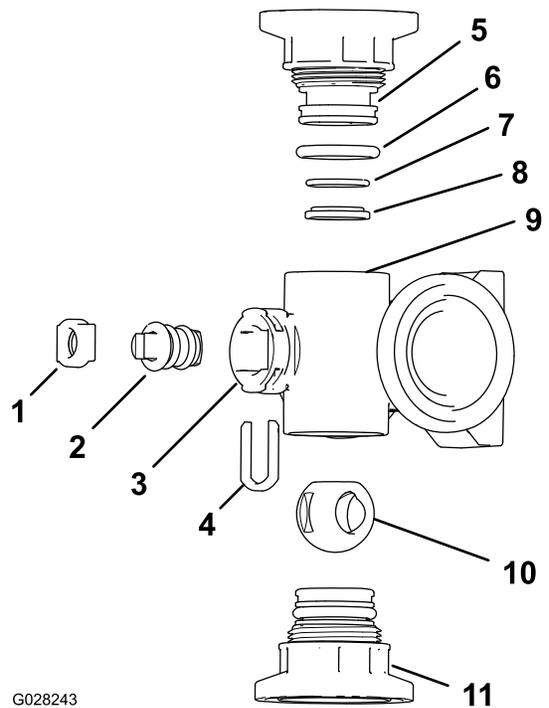

Figure 78
2. Remove the 2 end-cap-fitting assemblies from each end of the manifold body (Figure 78 and Figure 79).
- Remove the stem retainer from the slots in the stem port in the manifold (Figure 78 and Figure 79).
- Remove the stem retainer and valve stem seat from the manifold (Figure 78 and Figure 79).
- Reach into the manifold body and remove the valve-stem assembly (Figure 78 and Figure 79).
- Check the condition of the outlet fitting O-rings (section valve manifold only), end cap O-rings, back seating O-rings, and ball seat for damage or wear (Figure 78 and Figure 79).
- Apply silicone grease to the valve stem and insert it into the valve stem seat (Figure 78 and Figure 79).
- Install the valve stem and seat into the manifold and secure the stem and seat with the stem retainer (Figure 78 and Figure 79).
- Ensure that the back seating O-ring and the ball seat are aligned and seated into the end-cap fitting (Figure 78 and Figure 79)
- Install the end-cap fitting assembly onto the manifold body until the flange of the end-cap fitting touches the manifold body (Figure 78 and Figure 79), then turn the end-cap fitting an additional 1/8 to 1/4 turn.